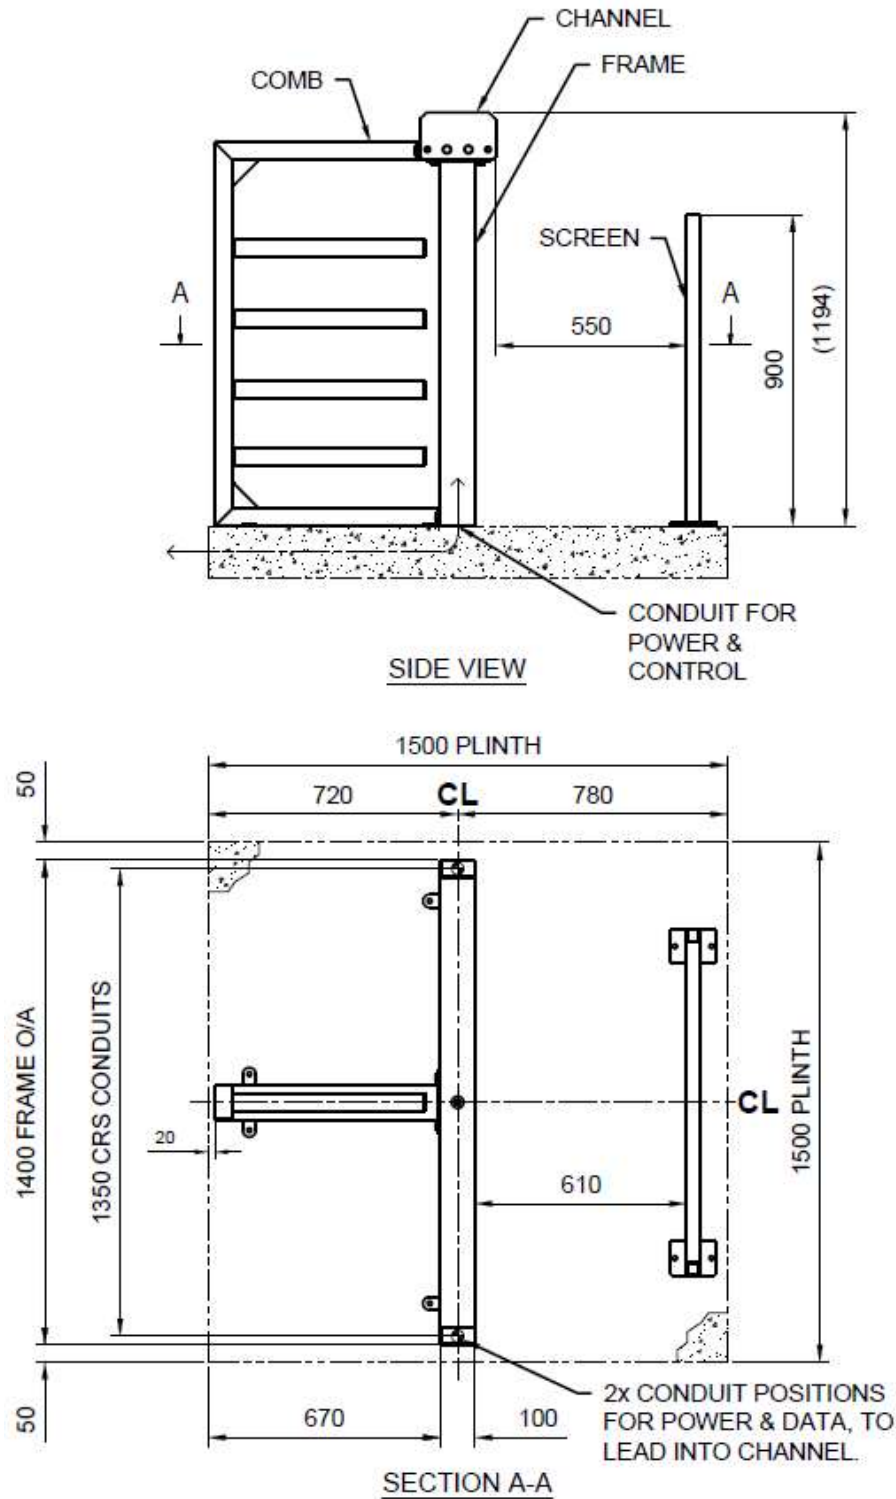

Figure 10: Single Turnstile Plinth
- 4.5. Place the frame & comb as shown on drawing *Figure 10: Single Turnstile Plinth* with the frame edge 670mm from the end of the plinth. Bolt down the frame and comb using the 4x off holes.
- 4.14. Place the screen 610mm away from the uprights of the frame. The screen will be 550mm away from the end of the top channel. Bolt down the screen using the 4x off holes. See Figure 10: Single Turnstile Plinth.
- Single Turnstile Specification: 1500mm long x 1500mm wide x 125mm deep, 15MPa strength concrete. (See *Figure 10: Single Turnstile Plinth*)